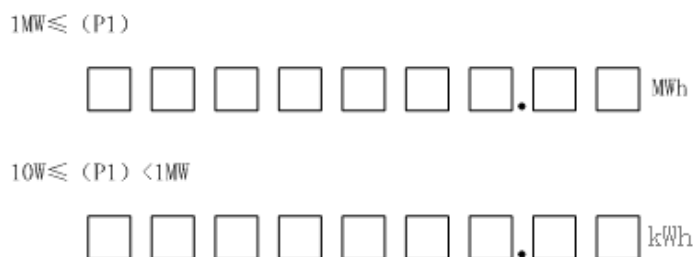

Fig. 121
**Note:** After the Energy accumulates to 9999999.99MWh, it shall be reset to 0 when Energy is accumulated 0.01MWh. After the Energy accumulates to 9999999.99Kwh, it shall be reset to 0 when Energy is accumulated 0.01Kwh. Meanwhile, the register for recording no. of active Energy overlimit adds 1, as shown in Fig. 121.
**(5) Importing total Energy page**